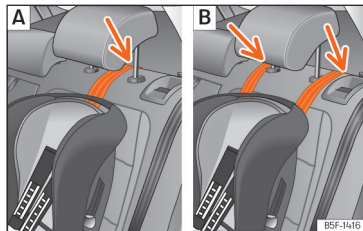

Fig. 39 Rear seats: adjustment and assembly according to the Top Tether belt.
- Position the belt under the headrest (according to the instructions of the seat itself, lift or remove the headrest if necessary) >>> **Fig. 39**.